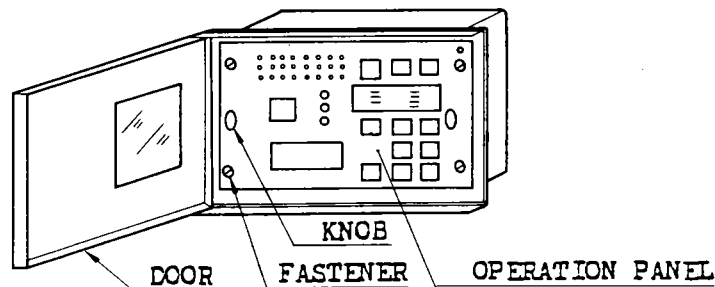

Figure 5.8 Open the Operation Panel
- (1) To locate the wiring terminal strips inside the converter, open the outer door and pull out the operation panel---see Figure 5.8. The operation panel is held by four fasteners located in the corners. Turn these fasteners 3--4 times counterclockwise to loosen them. Be careful not to force them with a screwdriver if they are in a bind as they might break. Once the fasteners are loose, grasp the knobs on the operation panel and pull it out approximately side as the outer door, pivot the operation panel to the left to gain access to the wiring terminal strips.